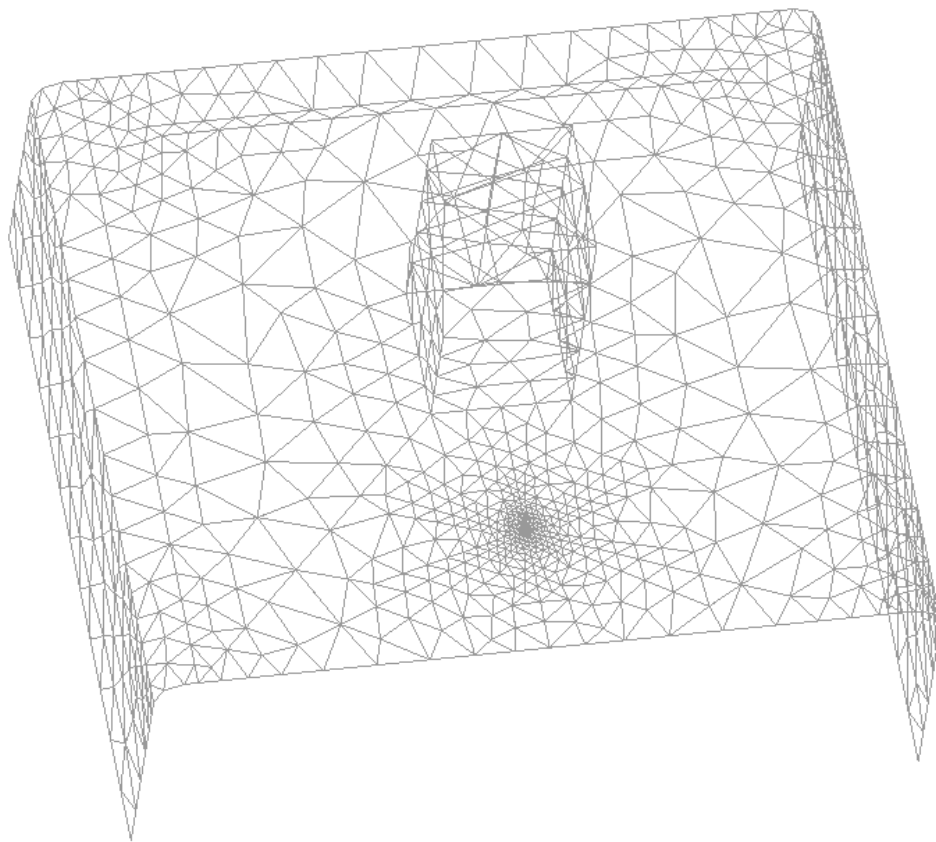

Figure 6. Mesh with the elements concentrated around a point, with a size gradient of 0.4.
- 13 . The size gradient (0.4) results in a higher density around the point (see Figure 6).